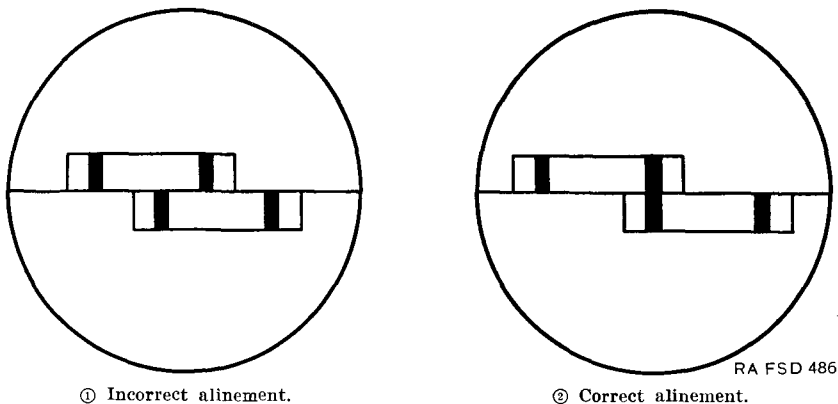

FIGURE 58.—Range adjustment, infinity method.
(c) To test the instrument by the infinity method, prepare adjusting lath by inserting the sight (carried in pocket flap of carrying case). Place adjusting lath in a horizontal position 200 yards or more from the instrument. Use the sight on the lath to insure perpendicularity to line of sight. Set range drum to indicate infinite range ( $\infty$ ). If images appear alined as in figure 58②, the adjustment is correct. Misalignment such as is shown in figure 58① indicates necessity for adjustment.